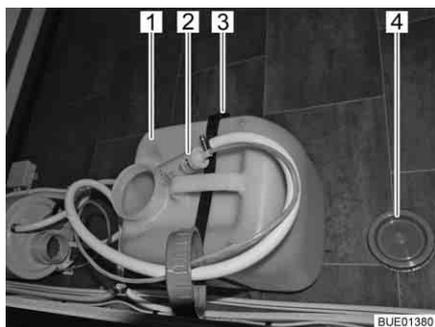

Fig. 161 Water tank 16 l
When transporting the water tank, close it with the cap (Fig. 161,4).
- Pull the water pump (Fig. 161,2) out of the water tank (Fig. 161,1).
- Release the retaining strap (Fig. 161,3).